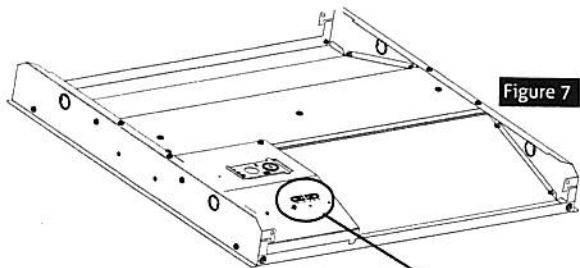

Figure 7
1. DIP switches are located onto the drive box.(see Fig.7)